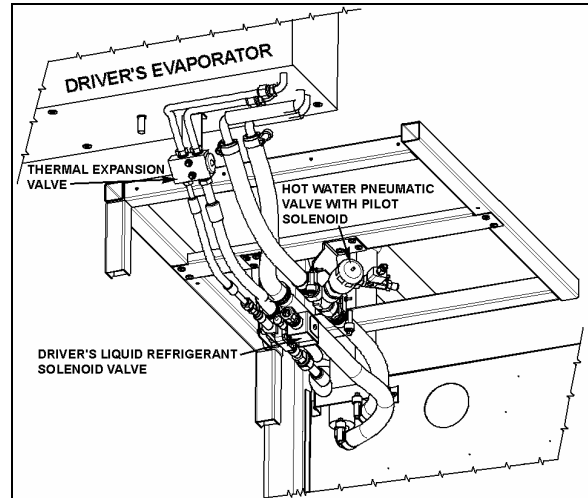

FIGURE 40: CEILING OF THE SPARE WHEEL COMPARTMENT
- b) Locate the normally open hot water pneumatic valve on the ceiling of the spare wheel compartment (Fig. 40), move the pilot-solenoid valve red tab to close the valve.